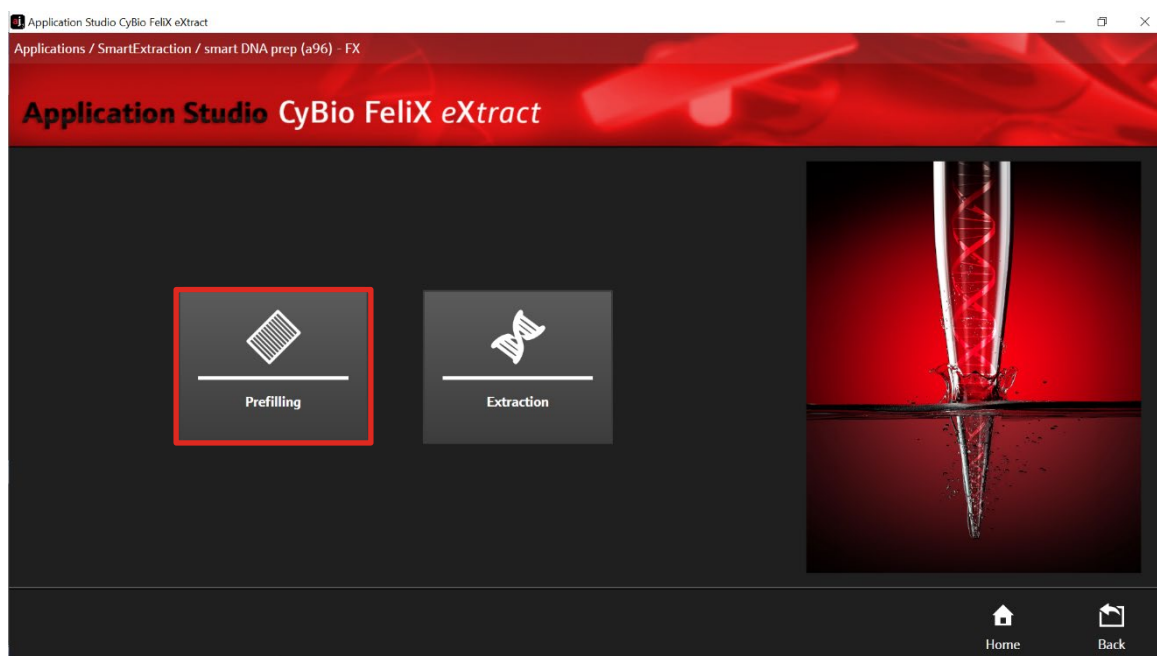

Figure 6: Routine selection: Prefilling.
14. Choose “Prefilling” (→ see Figure 6).